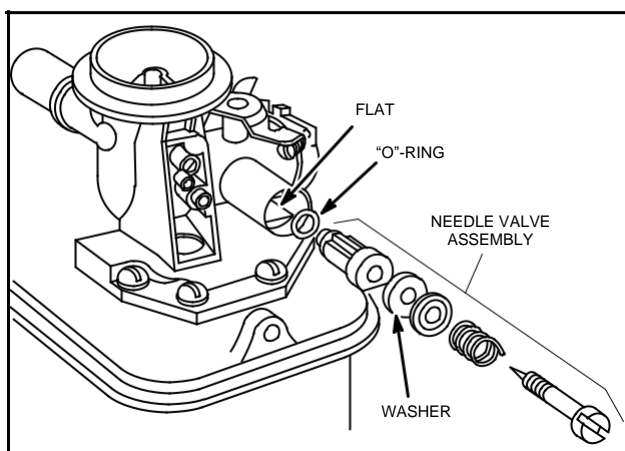

Fig. 147 – NEEDLE VALVE ASSEMBLY, PRESSED-IN-TYPE
**NOTE:** Some zinc carburetors use Minlont needle valve assembly, Fig. 147. See next subject heading "Remove Needle Valve Assembly - Pressed-in Type" for removal procedure.
4. Remove inner "O"-ring, Fig. 147.